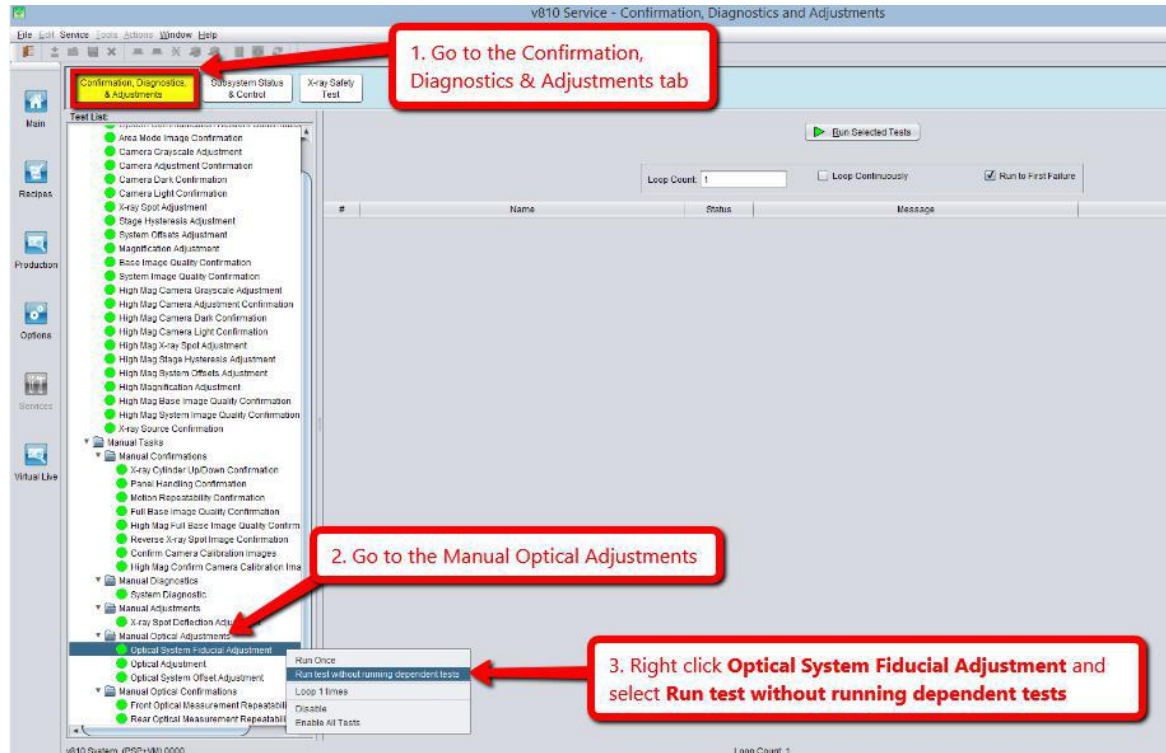

Figure 5 Optical System Fiducial Adjustment
8. At **Confirmation, Diagnostics and Adjustment (CD&A)**, under **Manual Optical Adjustments**, right click **Optical System Fiducial Adjustment** and select **Run test without dependent tests** as shown in the Figure 5.